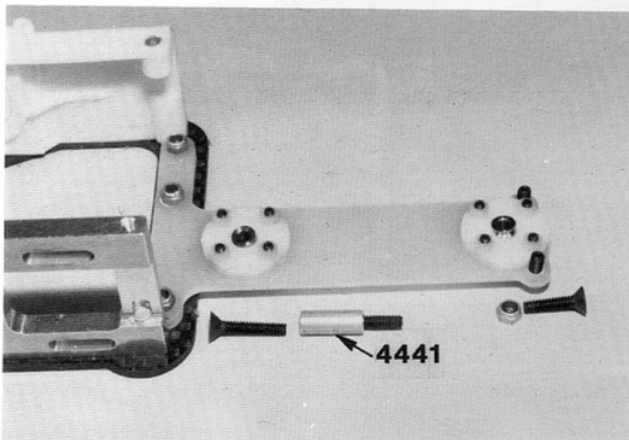

Fig. 26
□ **Figs. 26, 27 & 28**—Now we're ready to install the rear end assembly onto the chassis. Slip the short screw up through the forward hole in the chassis, then slip the T-bar down onto the screw, install and tighten the locknut.